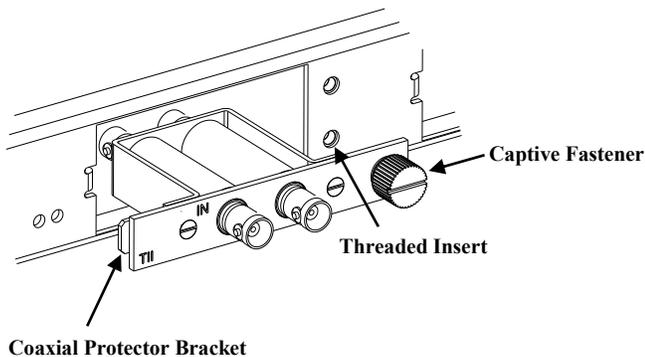

Figure 2
1. The TII 202 module can be installed in any of the (6) locations that have threaded inserts.
2. The 202 module has to be installed to the 706 panel on an angle so that the coaxial surge protector bracket (hind left side) slides behind panel and captive fastener aligns with threaded insert (See Figure 2).